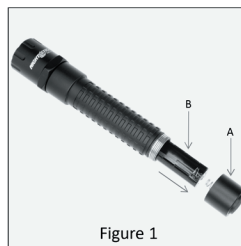

Figure 1
1. Remove the tail cap switch (Figure 1-A) and the CR123 battery carrier (Figure 1-B). NOTE: Keep the tail cap switch for future use so the light can be converted back to a conventional hand-held tactical flashlight in the future.